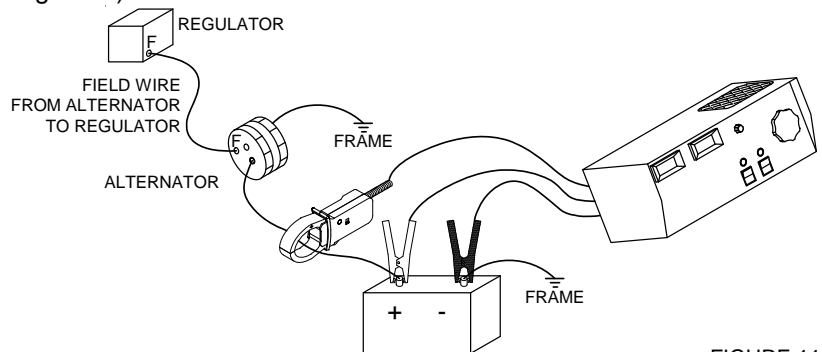

FIGURE 11
- 1) Connect the unit to the vehicle as shown (See figure 11).